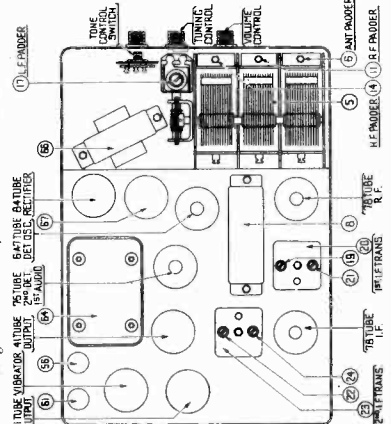

FIGURE 6
Both the primary and secondary paddlers are placed side by side in the top of the transformer shield can. The adjusting screws are accessible thru the holes in the top of the shield. (See Figure 6).
1. F. — Set the signal generator at exactly 260 K. C. Connect the generator lead to the grid cap of the 6A7 tube in series with a .1 mfd. condenser (without removing the grid clip). Adjust the padders (A), (B) and (C) on the first and second I. F. transformer for maximum reading on the output meter. (See Figure 6 for location of padders).